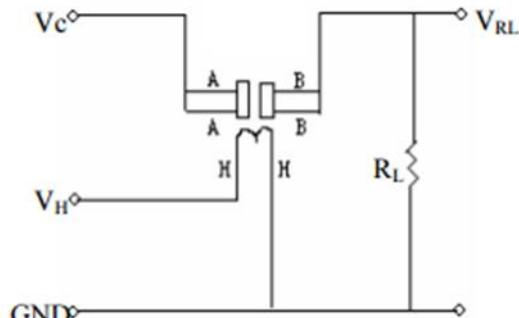

Figure 2. Sensor application schematic
The MQ-2 datasheet shows the sensing circuit implementation with a Load Resistance (RL), as shown in Figure 2.